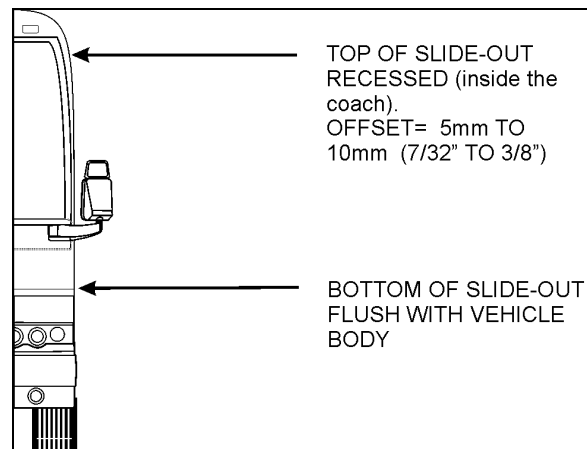

FIGURE 23: TILT ADJUSTMENT
- Using levelling screw 3, adjust the tilt in order to have the top of the slide-out recessed between 5mm and 10mm (7/32" and 3/8") (see FIGURE 23).